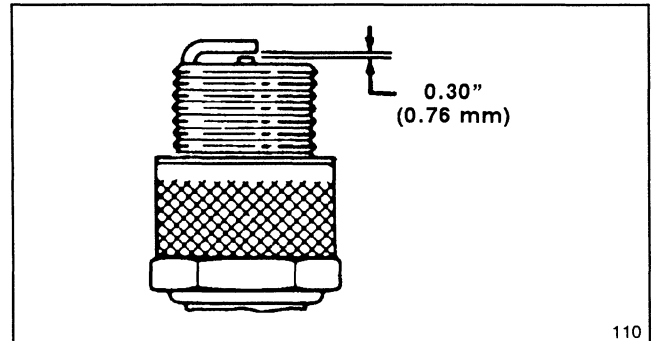

Figure 39
3. Set air gap between electrodes of new spark plug at 0.030" (0.76 mm) (Fig. 39). Next, install spark plug in cylinder head. Tighten plug to 15 ft-lb (20.4 N·m).